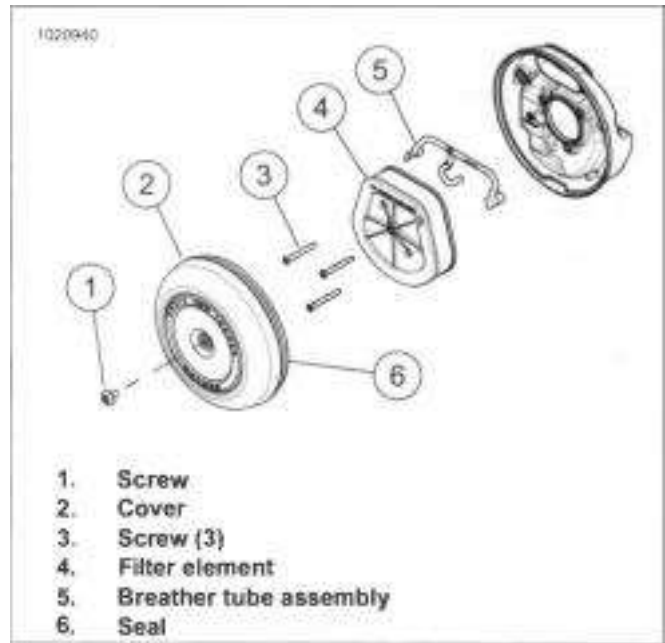
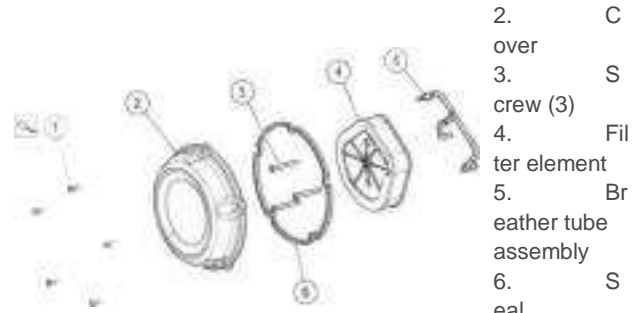

Figure 2-43. Replace Air Filter Element, Single Screw Cover
Figure 2-44. Replace Air Filter Element, Five-Screw Cover
1. See Figure 2-43 or Figure 2-44. Remove air filter cover.
- a. Remove screws (1).
- b. Remove cover (2).
- a. Remove screws (3).
- b. Remove filter element (4) while pulling breather tube (5) from element.
1. See Figure 2-43 or Figure 2-44. Install filter element.
- a. Install breather tube (5) into filter element (4).
- d. Install screws (3). Tighten.